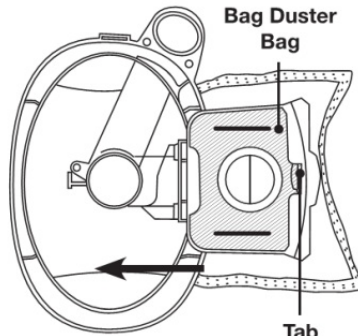

Fig 19
3. Holding the HEPA dust bag in your hand, slide it out from the slots in the bag holder and hold carefully in order to avoid dust falling out of HEPA dust bag. (Fig. 19)